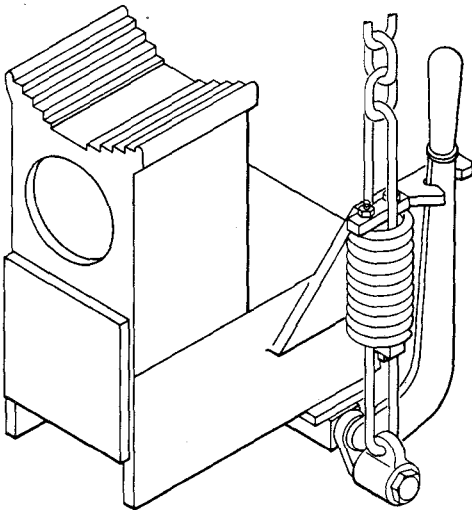

Fig. 6—Front King Pole Binder Assembly
4.02 Front and rear chain-type king pole binders for the different types of trailers are similar in construction and operation but mountings will vary for different trailer dimensions. Fig. 6 and 7 show typical front and rear chain-type king pole binder assemblies.